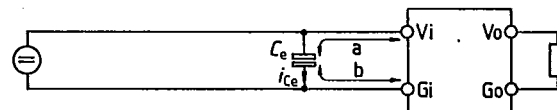
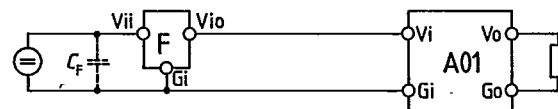

Fig. 21
Fig. 22
Melcher input filter (weight 30 g) for switching regulator in case A01, see Fig. 22
If the input line length exceeds 500 mm, an external (electrolytic) input capacitor  $C_e$  with a capacitance value of at least 100  $\mu\text{F}$  must be connected across the switching regulator input terminals  $V_i$  and  $G_i$  (Fig. 21). However, the connection line lengths  $a + b$  together must not exceed 500 mm twisted or 300 mm untwisted.
As shown in Fig. 22, a Melcher input filter can be wired into the input lines in place of capacitor  $C_e$  in Fig. 21.
However, if switching regulators are to be used without option L, an external capacitor  $C_e$  may be necessary (Fig. 21). See page 12 "4.2 Long Input Lines". If a capacitor is connected directly across input terminals  $V_i$  and  $G_i$ , a maximum current of 2.6  $A_{rms}$  (about 150 kHz) will flow; in the case of an input line length  $a + b = 400$  mm 1.5  $A_{rms}$  at the most. The capacitor must be capable of handling this current.
- Introduce an external capacitor  $C_e$  between  $V_i$  and  $G_i$  (Fig. 21) with a capacitance value of